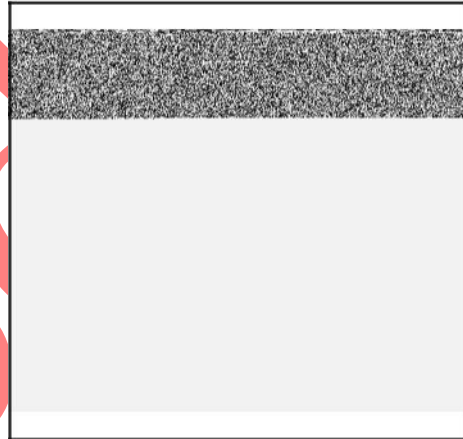

Figure 31
1. Place clutch (E, Figure 31) on starter shaft and rotate clutch until it drops into place.